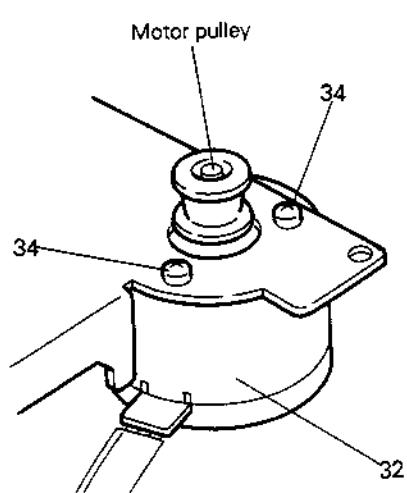

Fig. 7-24
■ **Capstan motor and Flywheel (Fig. 7-24 through 7-26)**
1. Place the cassette mechanism upside down to expose the bottom. (Fig. 7-24)
2. Remove three screws (37) retaining the FR bracket assembly from the chassis base. (Fig. 7-24)
3. Expand two pawls (B, C) retaining the FR bracket assembly in the direction of the arrow to remove them. (Fig. 7-24)